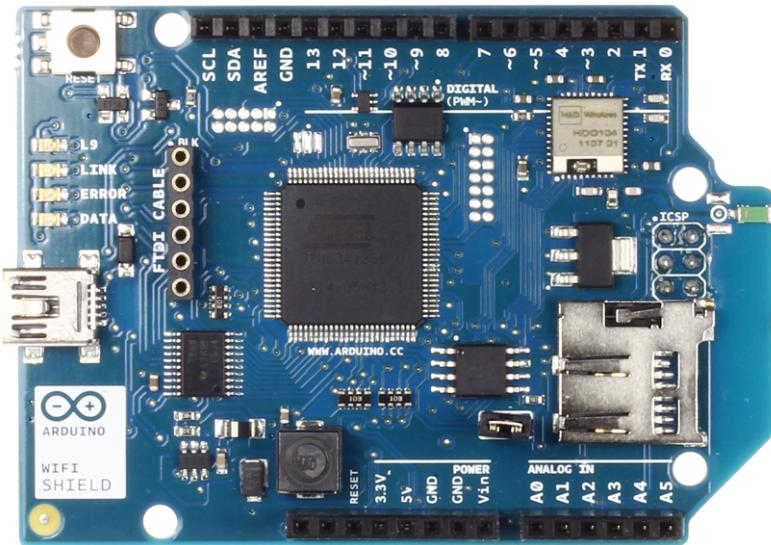

Figure 13-10: Arduino Wi-Fi SD shield
- **Official Arduino Wi-Fi SD shield** (www.exploringarduino.com/part/arduino-wifi-shield) : This shield also implements network connectivity, but it takes advantage of a Wi-Fi radio to do so. For the same reasons as the Ethernet shield, it also houses an SD card reader/writer. As with the Ethernet shield, the Wi-Fi controller CS is pin 10, and the SD card CS is pin 4. You must take care to not attempt to simultaneously enable both devices; only one CS line can be active at a time (low logic level), as with all SPI configurations (see Figure 13-10).